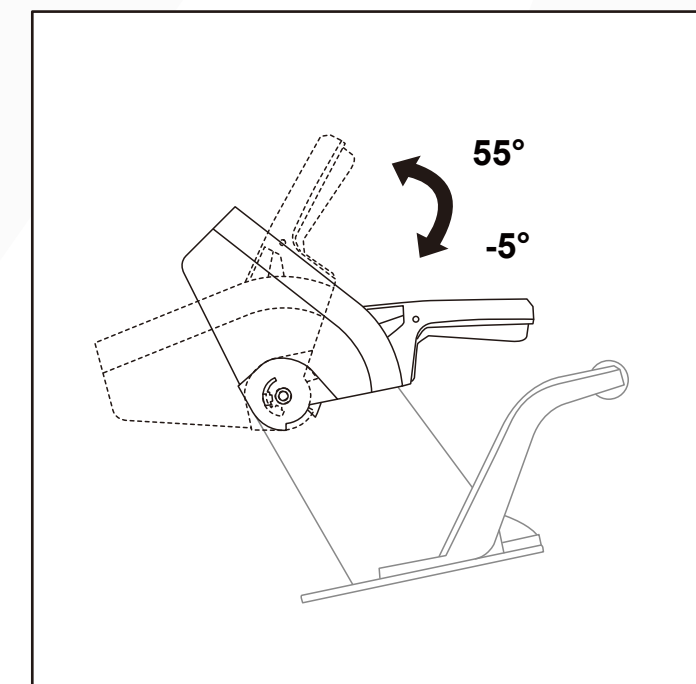
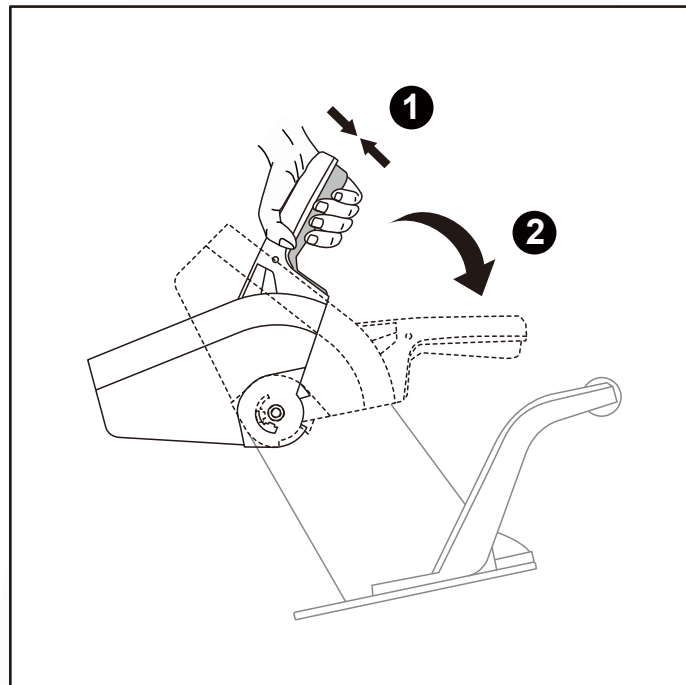
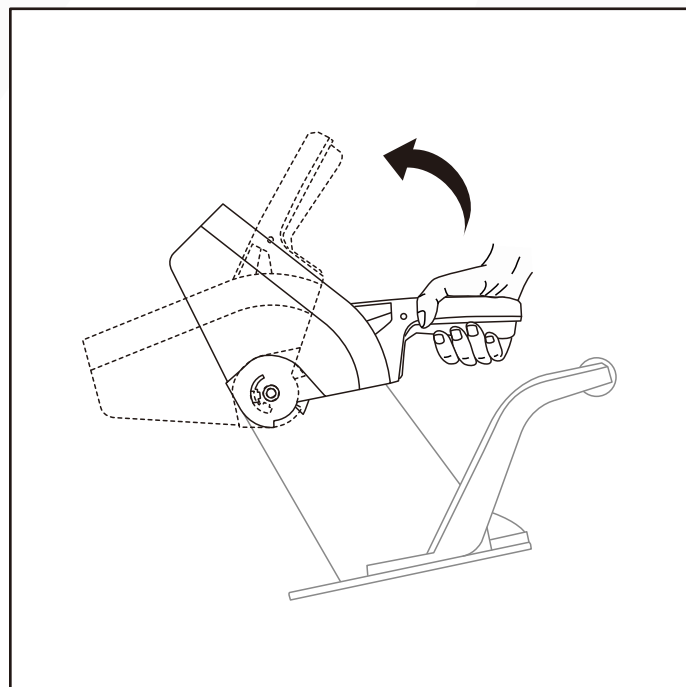

Fig.12A
Fig. 12B
Fig. 12C
2. Squeeze the trigger and move the deflector upward or downward to a suitable height. The snow blower offers different angles from -5°~55°. (Fig.12A/Fig.12B/Fig.12C)
3. Release the trigger to lock the chute deflector in place. (Fig.12C)